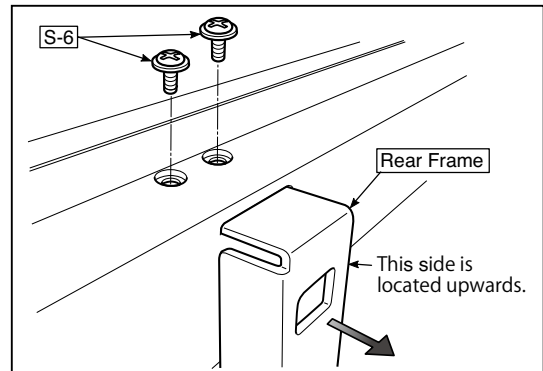

Fig.23
10) Remove the Rear Frame. (See Fig. 23)
- 1.Remove the "S-6" screws shown in the figure 23 and then remove the Rear Frame (two).